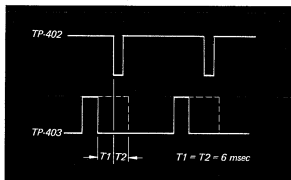

Fig. 7-10.
3. Turn the TRACKING control clockwise and counterclockwise and confirm that the output pulse shifts at least 6 msec in both directions. See Fig. 7-10.